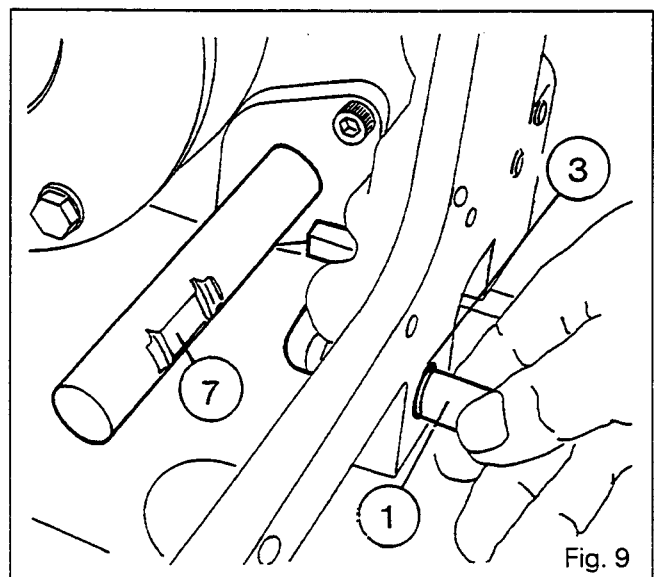

Fig. 9
18. To remove the creeper gear control shaft (1), turn it so that it goes under the selector rail (7) (Fig. 9). Discard the O-ring (3).